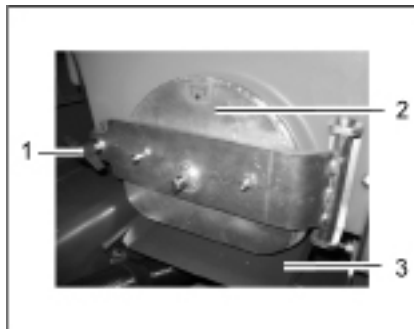

Fig 27
3. Pull out the run-off plate (Fig. 27/3)
4. Release the flap lock: Turn the wing nut (Fig. 27/1) counterclockwise
5. Open the cleaning flap (Fig. 27/2).